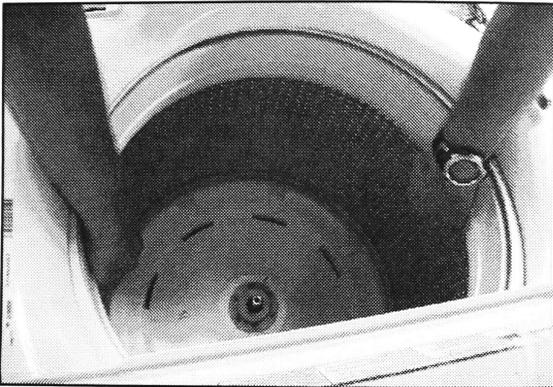

FIGURE 6
8. Lift the basket up with 2 hands as shown in *Figure 6* to reduce the gap between the basket and driven hub, then use one hand to hold basket up while driving in two (2) screws that are on opposite sides of the new driven hub. Fully seat the remaining screws.